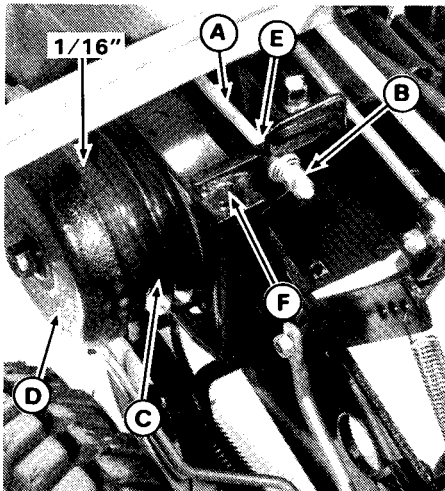

Figure 21. PTO Clutch Adjustment - All Models
The PTO clutch is properly adjusted when the clutch pulley (C, figure 21) moves away from clutch cone (D) 1/16 inch (1.5 mm) when clutch is disengaged. To adjust, proceed as follows.